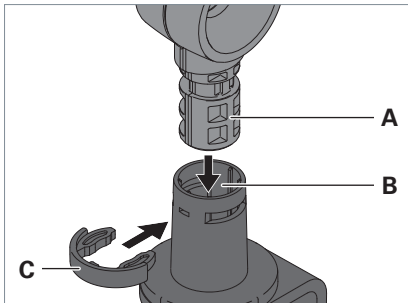

Fig. 4: Mounting a luminaire on a table clamp.
- ▶ Insert the stud **A** on the luminaire column into the opening **B** of the table clamp, see Fig. 4.